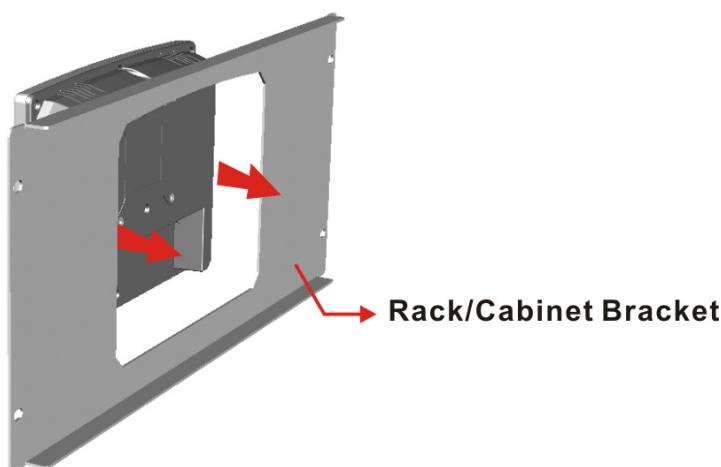

Figure 3-29: Rack/Cabinet Bracket Installation
Step 1: Slide the rear chassis of the AFL3-W10A/12A/W15A-AL panel PC through the rack/cabinet bracket until the frame is flush against the front of the bracket (**Figure 3-29**).